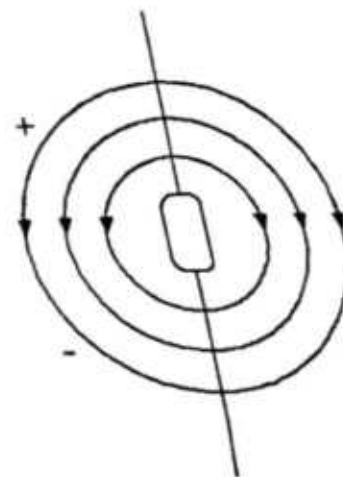

Figure 8b AF Section
The last part of the superheterodyne receiver is the Audio Frequency (AF) Section. This is an audio amplification network that drives your speakers. Remember what we talked about before regarding antenna impedance matching? The load (in this case our speakers) must match the radio's circuitry (AC resistance wise). Proper impedance matching has to be observed not only to deliver maximum power to antennas, but must be observed with audio applications as well. This gives the speakers the maximum, matched output power possible. See Figure 8b.